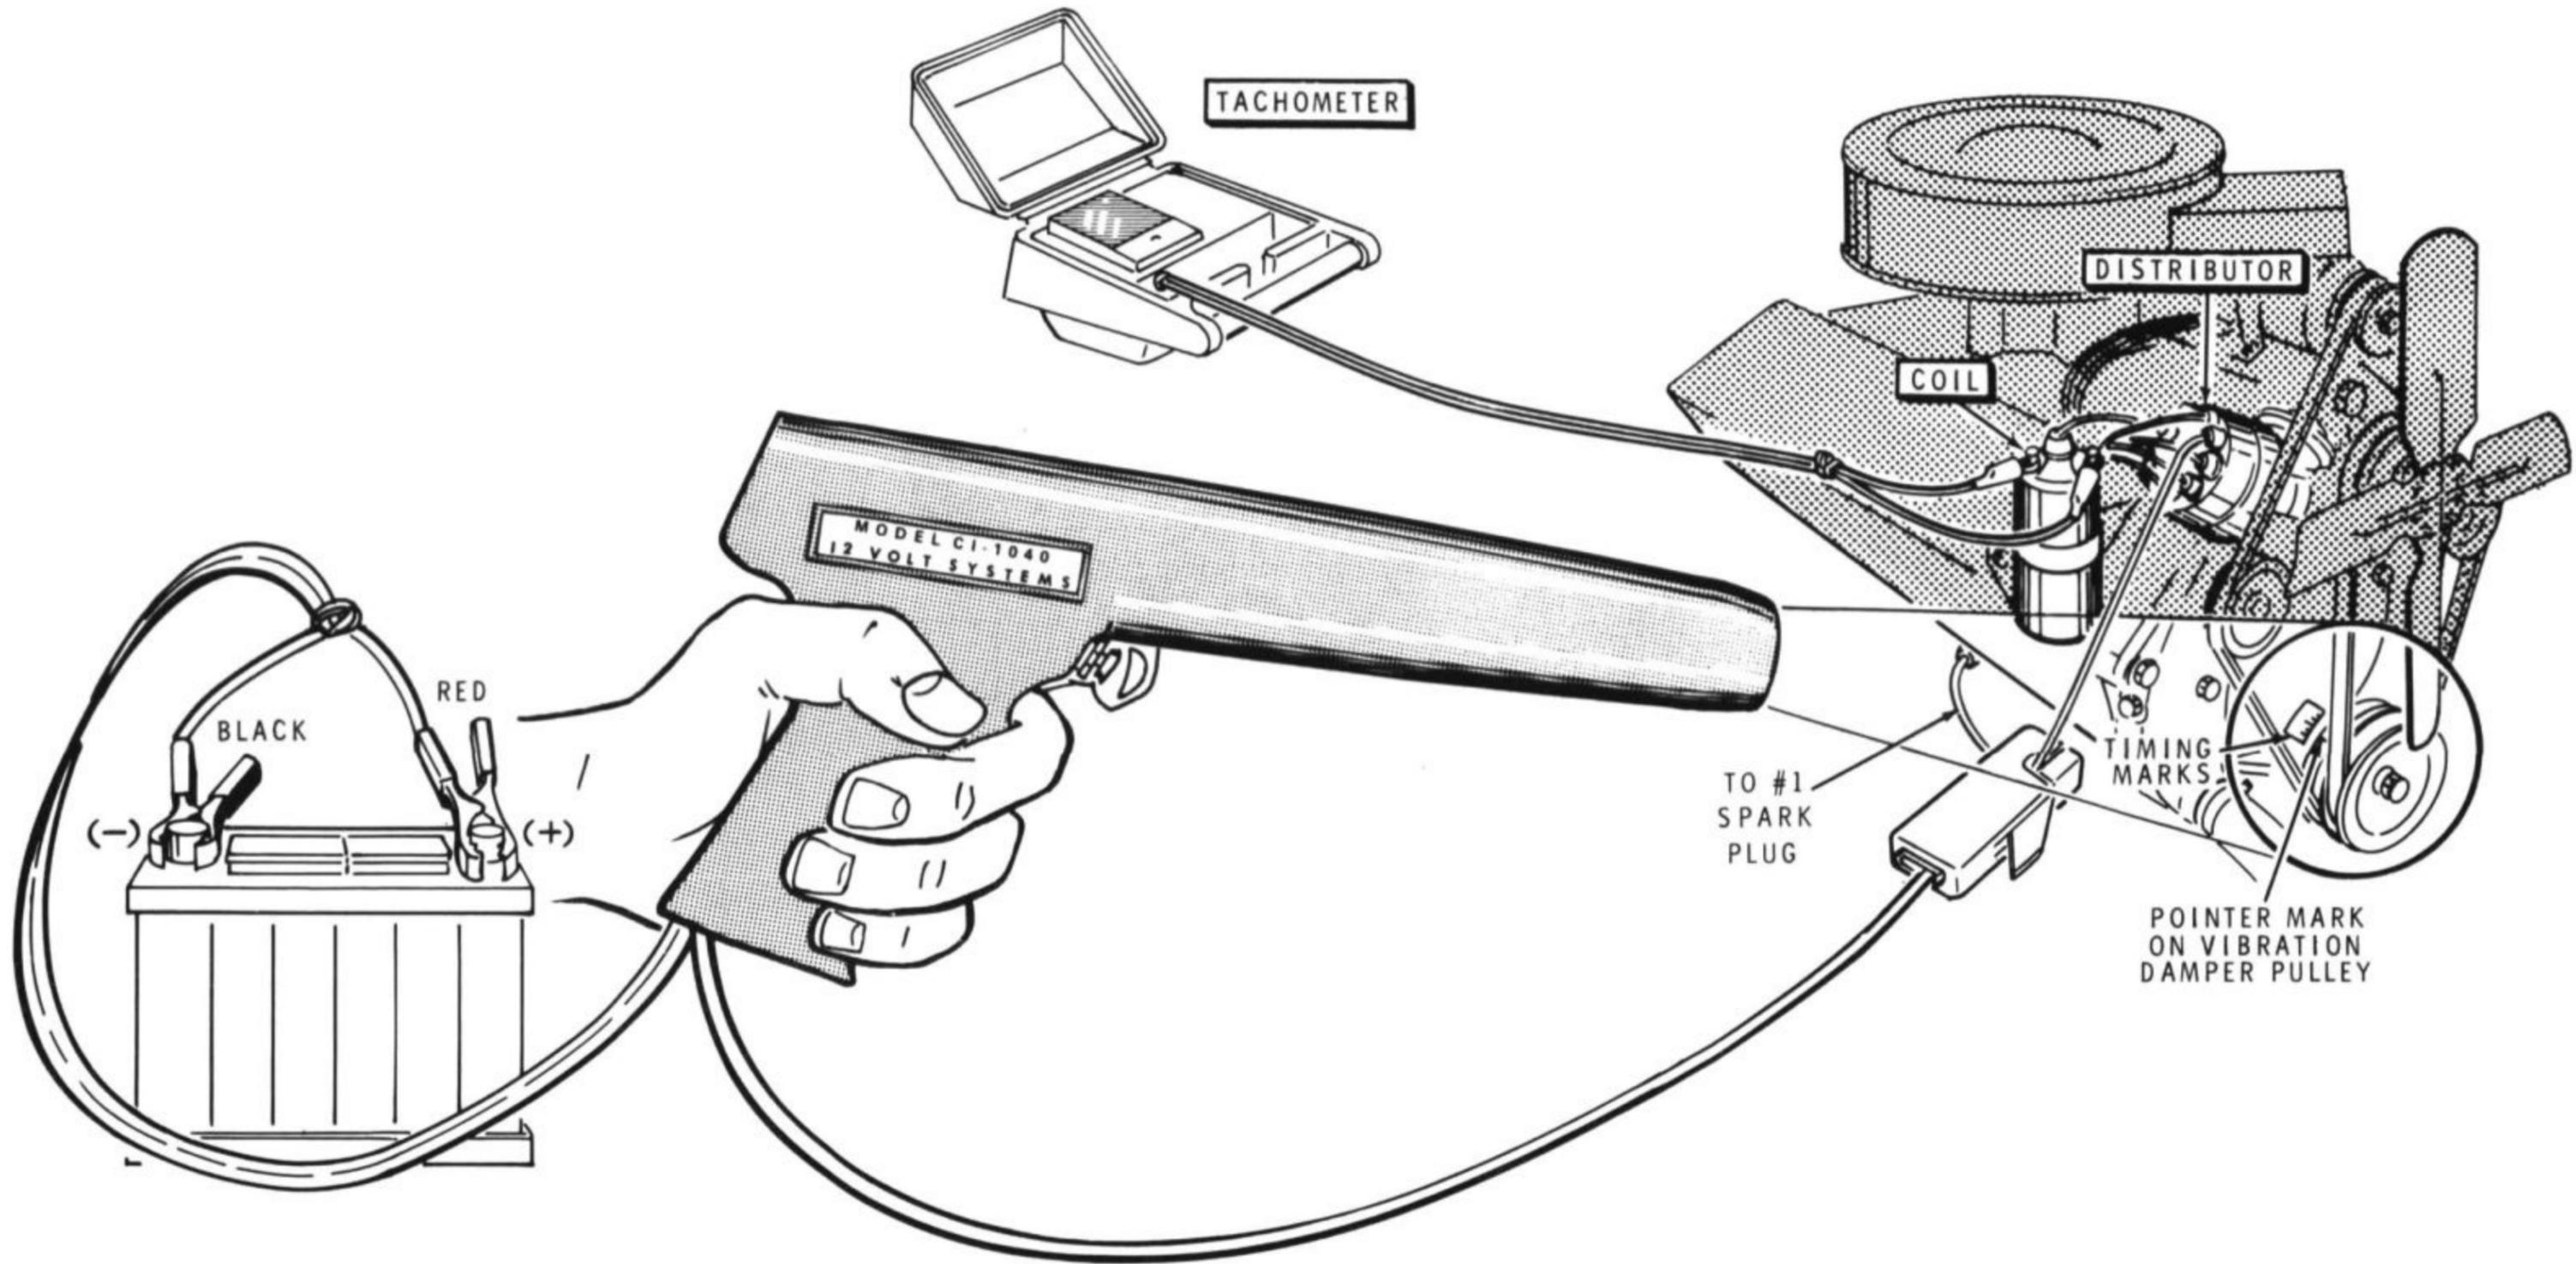

Figure 3
Refer to Figure 3 (fold-out from Page 18) for an illustration of the operation and use of the Timing Light on an automobile engine.
3. Be sure the Timing Light, its power cord, and the trigger pickup cable are correctly positioned as shown in Figure 3 so they are clear of the fan and fan belt.